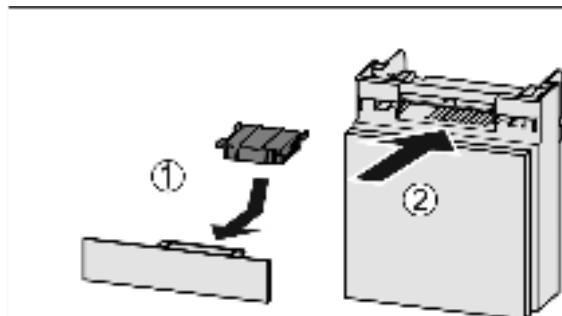

Fig. 35
- ▶ Insert the carbon filter as shown in the diagram Fig. 35 (1).
- ▶ Push the compartment in Fig. 35 (2).